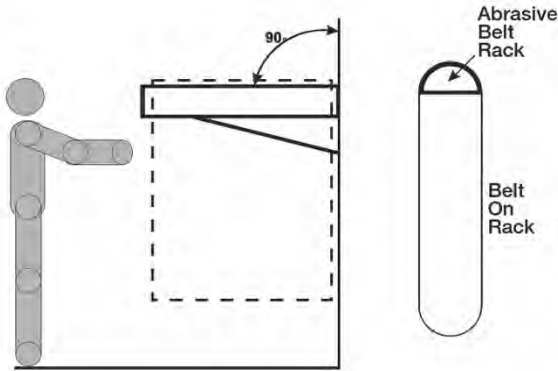

Figure 9-17: Storing Belts
- Store abrasive belts on a rack for best results and longer belt life (see Figure 9-17). Use one rack per abrasive grit grade.